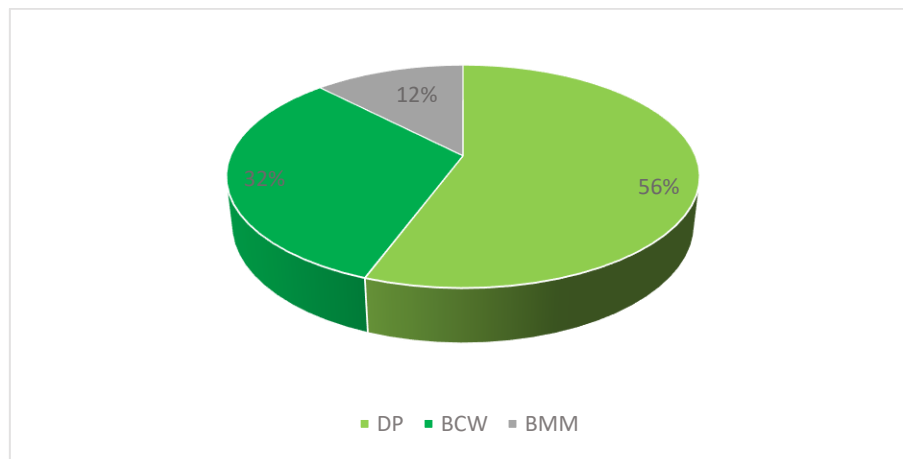

Figure 2-32 Percentage distribution of schemes within the target groups
Considering the data collected for each qualification, a first analysis can be performed to highlight the category to which the highest number of qualification schemes are addressed. Figure 2-32 shows that the qualifications collected are mainly referred to the category of Design and Planning (DP) with 56%, followed by Building Construction Works (BCW) with 32% and, lastly, the Building Maintenance and Management (BMM) with only 12%.